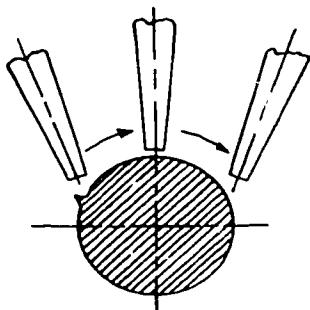

Figure 5-13. Cutting round stock.
**Cutting Round Stock.** To cut round stock, use a chisel to raise a burr on the surface of the metal where the cut is to begin. The burr makes it possible to start cutting without prolonged heating. Start the cut at the side, about  $90^{\circ}$  from the vertical centerline, as shown in figure 5-13. After starting the cut, raise the torch to the vertical position and hold it in this position for the remainder of the cut. Hold the preheating flame at the same distance from the surface of the metal as you do for cutting sheet stock.